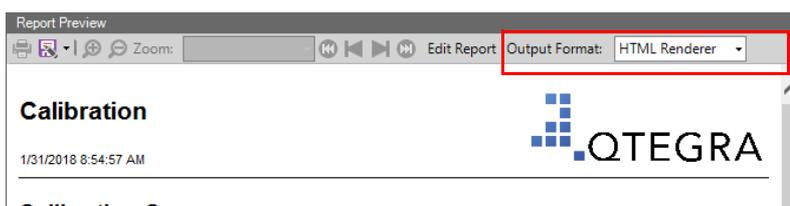

Figure 8-8. Formatting a Report with an HTML renderer
2. From the **Report Preview** toolbar, expand the **Output Format** button to display the menu items. Select **HTML Renderer**, see Figure 8-8.